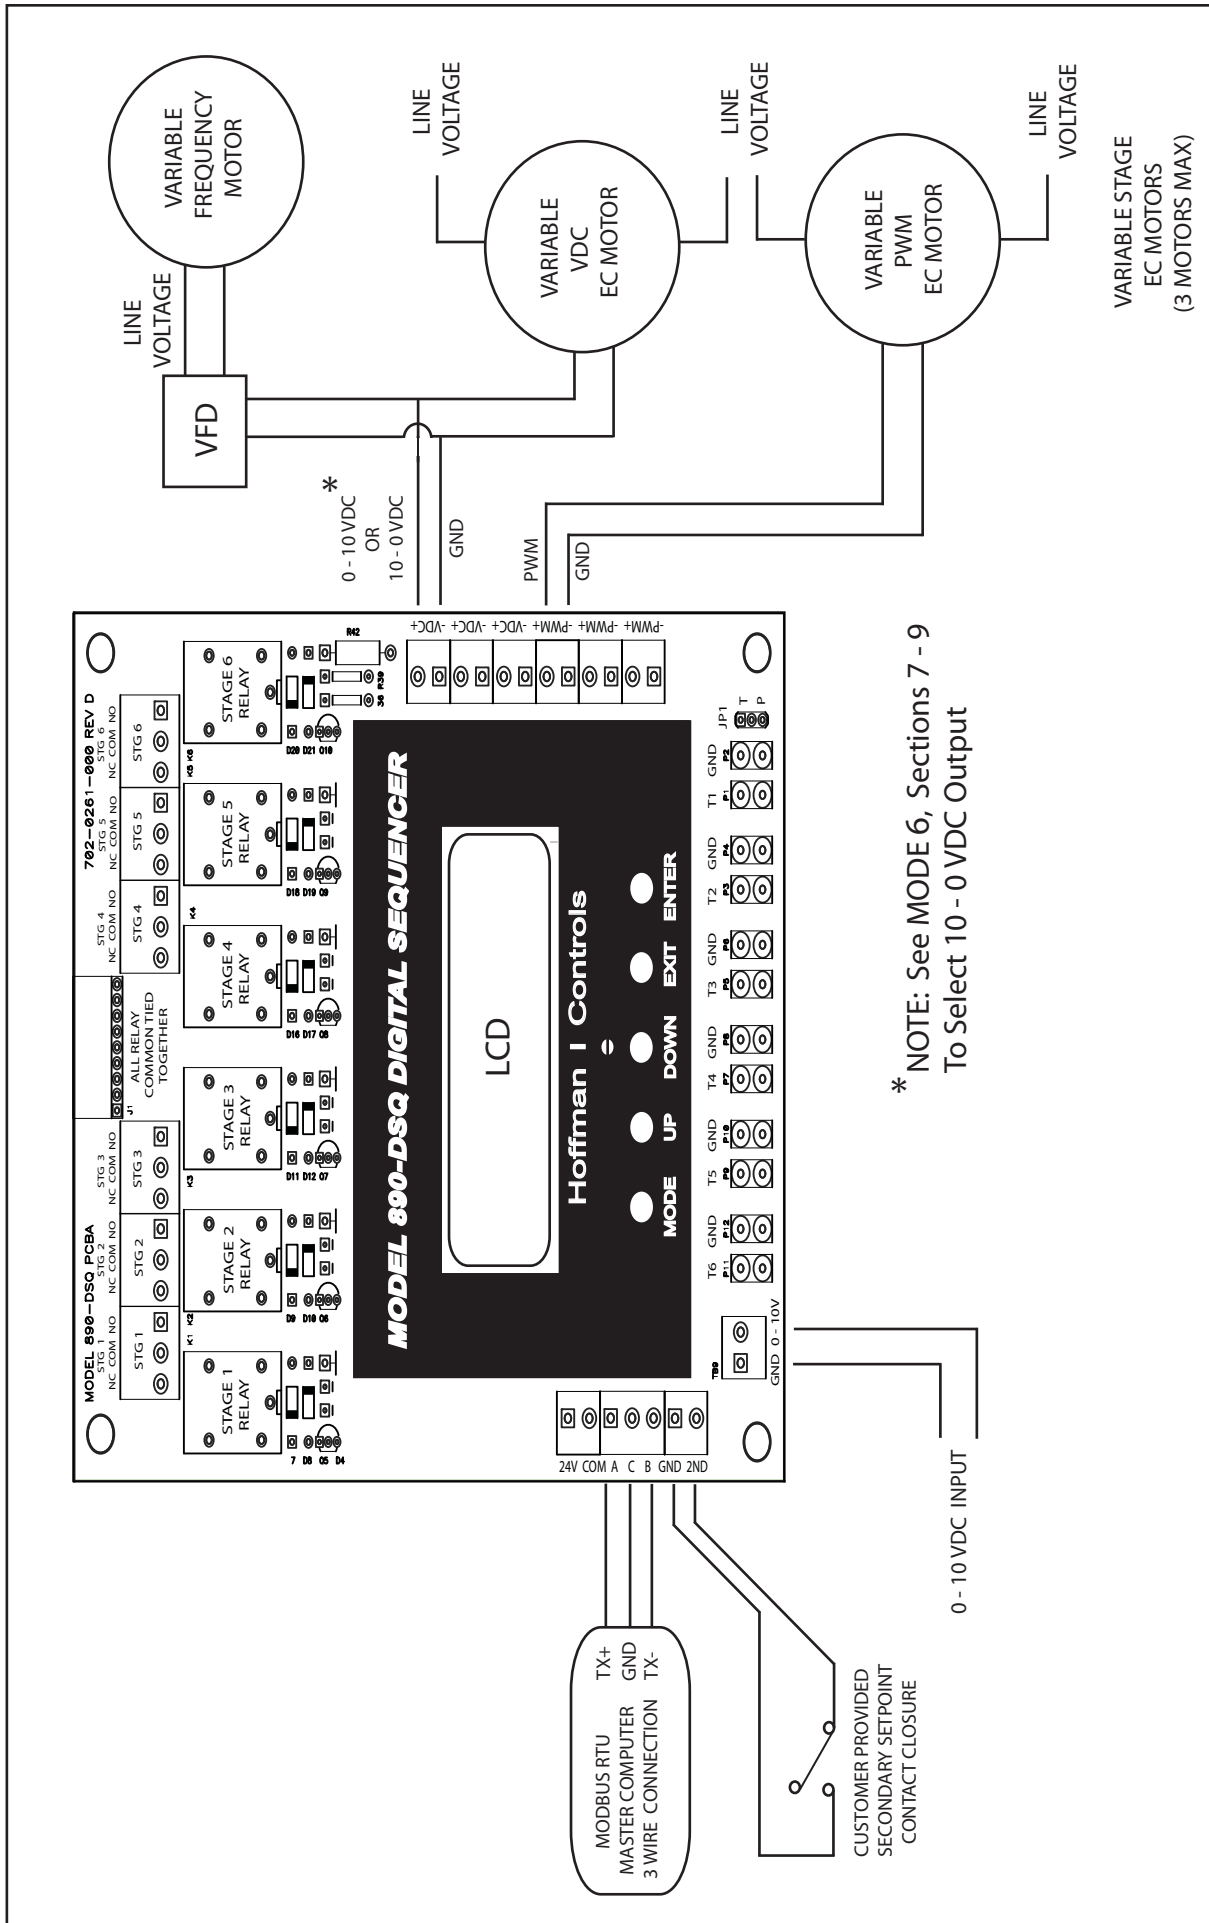

Figure 8
- 6) Refer to **Figure 8, 890-DSQ Wiring Diagram 3**, (on page 15) for applications using Modbus, secondary set points, the 0-10 VDC input, and/or variable stage (VS) EC motors and SCRs.